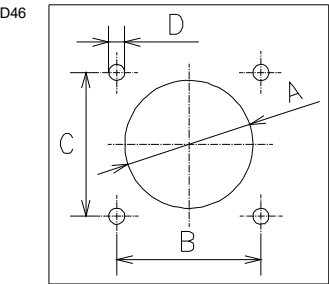
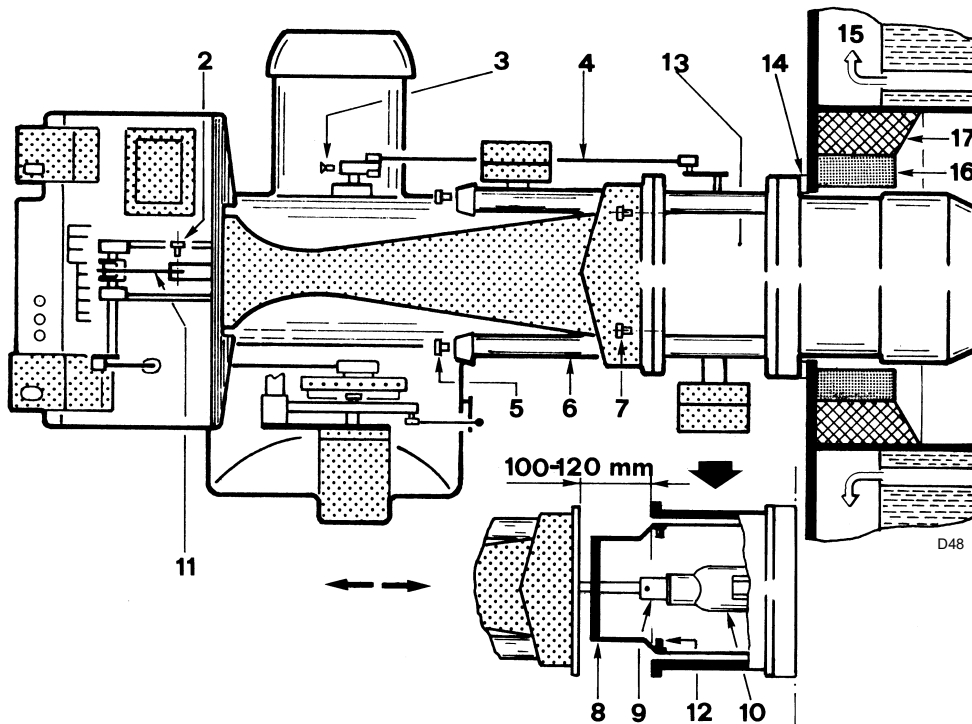
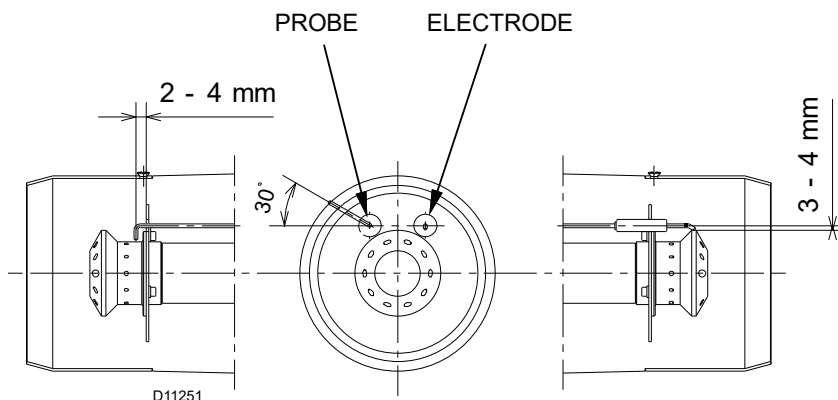

Fig. 12
Fig. 13
Fig. 14
Pierce the closing plate of the combustion chamber, as in Fig. 12. The position of the threaded holes can be marked using the thermal insulation screen supplied with the burner.
For boilers with front flue passes 9)(Fig. 13 on page 17), or flame inversion chamber, a protection in refractory material 7) must be inserted between the boiler fettling 8) and the blast tube 6).
- Remove the screws 5)(Fig. 13) from the two slide bars 6).
- Before securing the combustion head to the boiler, make sure the probe and electrode are positioned correctly as in (Fig. 14 on page 18). If the position is incorrect, remove the elbow 10)(Fig. 13) from the pipe coupling 13).
Do not rotate the probe but leave it as in Fig. 14; if it is too close to the ignition electrode, it could damage the flame control amplifier.
- Fix the blast tube to the boiler plate (Fig. 12 on page 16), inserting the supplied insulating flange gasket 14)(Fig. 13).
- Then refit the burner on the slide bars 6)(Fig. 13) and the gas tube 9) into the elbow 10).
- Refit the fork 8)(Fig. 13) fixing it with the screws 12).
- Tighten the screws 7)(Fig. 13) securing the fan to the combustion head.
- Fit the retainers and the screws 5)(Fig. 13) to the two slide bars 6).
Before securing the burner to the boiler, check (through the opening of the blast tube) that the probe and electrode are correctly positioned, as in Fig. 14.
If in the previous check the position of the probe or electrode was not correct, remove the screws 7)(Fig. 13 on page 17) extract the inner part of the head 4)(Fig. 6 on page 11), and adjust them.
Respect the dimensions shown in Fig. 14.